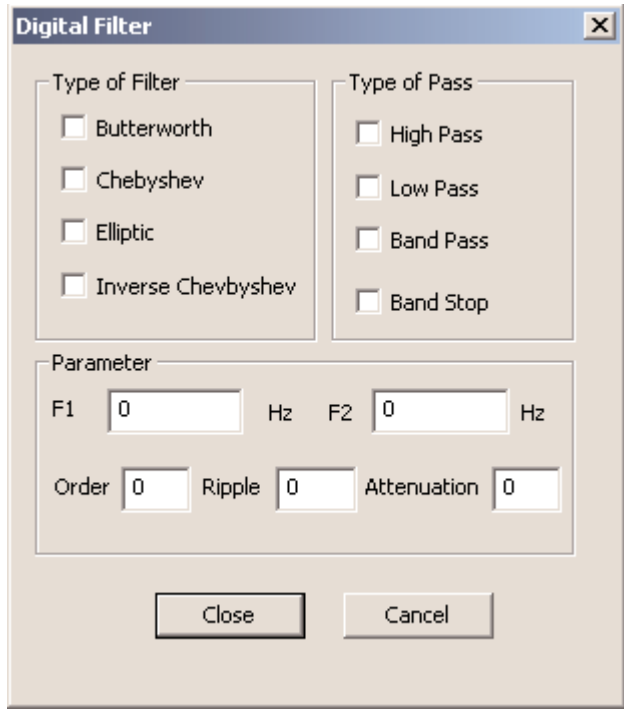

Figure 2: Digital Filter Selection
4. Once the Digital Filter is selected, a screen indicating the filter type will appear (See Figure 2).